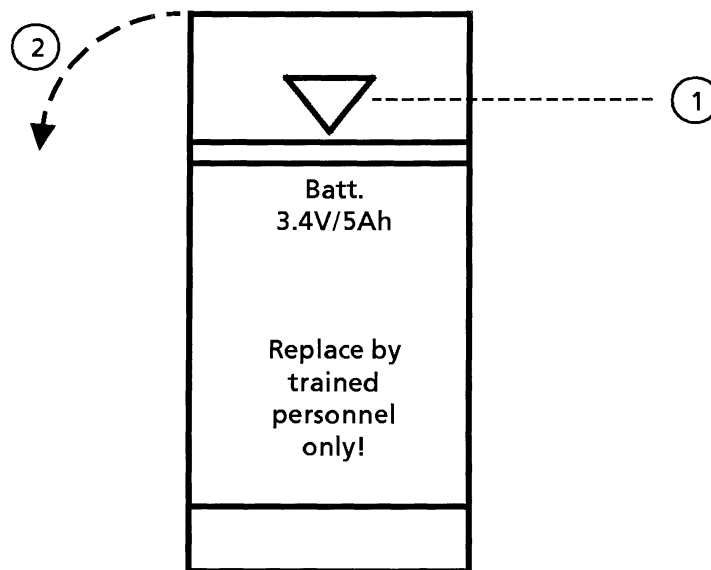

Figure B.1 Opening the Battery Compartment
1. Open the battery compartment as follows (see Figure B.1)
- ① Press the slide down.
- ② Swing the battery compartment door out and down.
1. Open the battery compartment door (see Figure B.1)
- ① Press the slide down and
- ② swing the battery compartment door out and down.